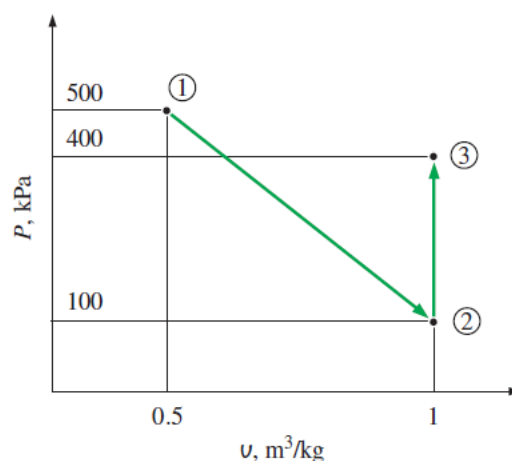

Fig. 1
**Question 4:** Calculate the total work, in kJ, for process 1–3 shown in Fig. 1 when the system consists of 2 kg of nitrogen.